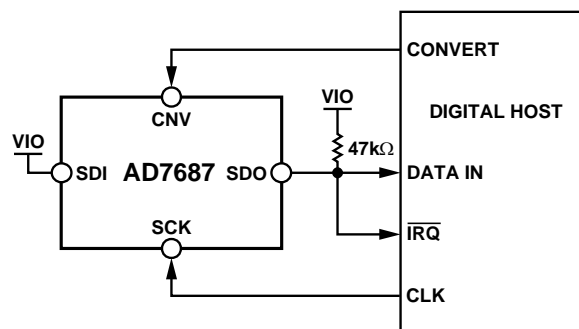
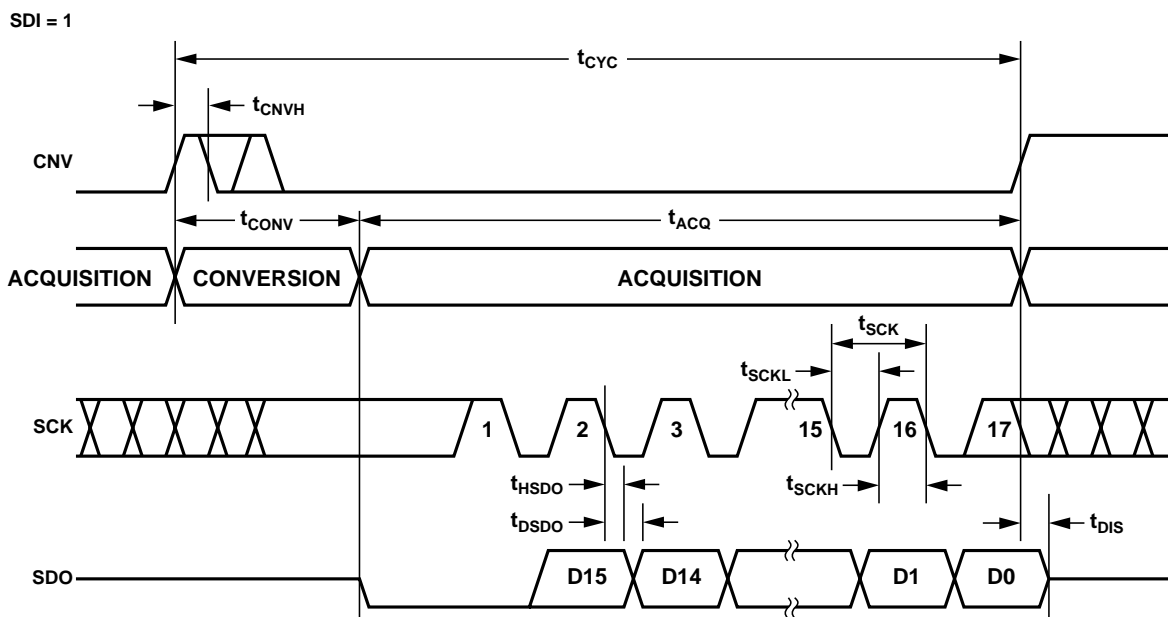
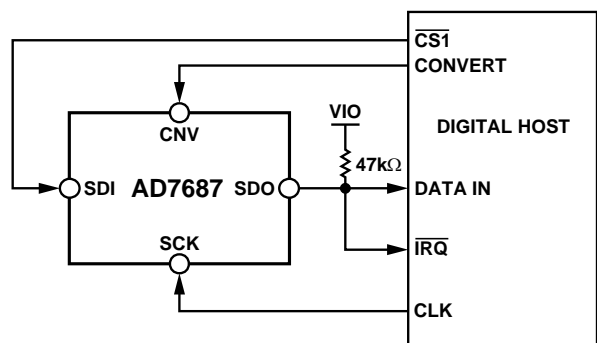
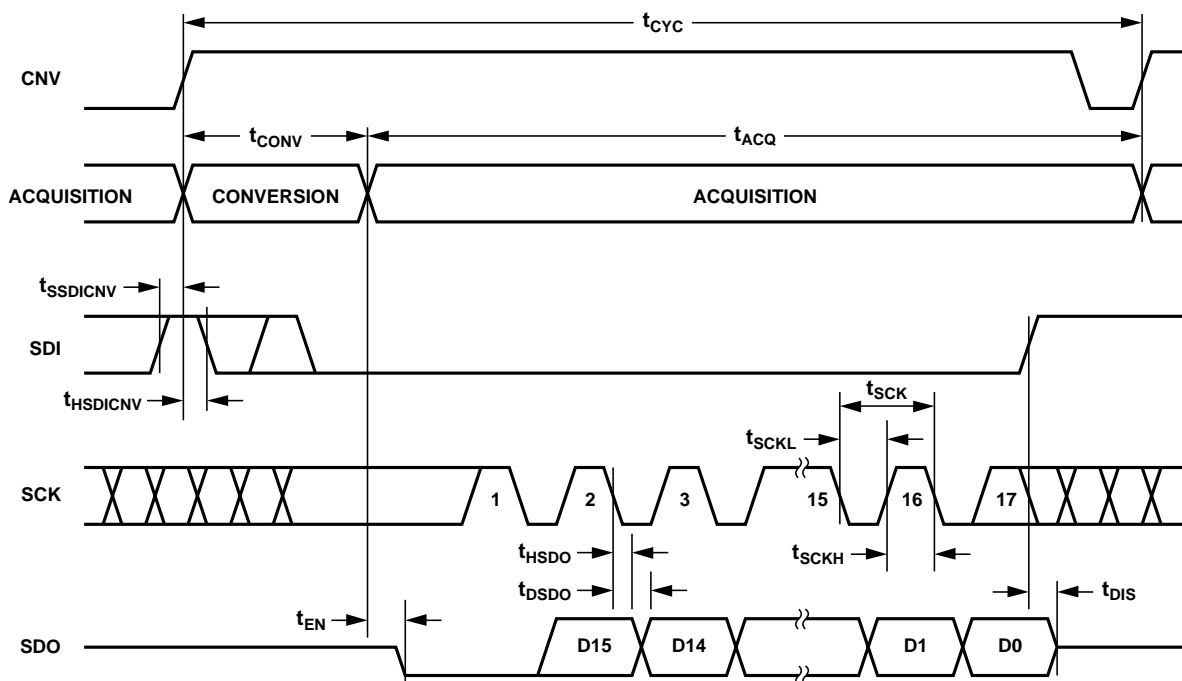

Figure 37.  $\overline{\text{CS}}$  Mode 3-Wire with BUSY Indicator Connection Diagram (SDI High)
Figure 38.  $\overline{\text{CS}}$  Mode 3-Wire with BUSY Indicator Serial Interface Timing (SDI High)
Figure 41.  $\overline{\text{CS}}$  Mode 4-Wire with BUSY Indicator Connection Diagram
Figure 42.  $\overline{\text{CS}}$  Mode 4-Wire with BUSY Indicator Serial Interface Timing
- In the  $\overline{CS}$  mode, if CNV or SDI is low when the ADC conversion ends (Figure 38 and Figure 42).
The connection diagram is shown in Figure 37 and the corresponding timing is given in Figure 38.
The connection diagram is shown in Figure 41 and the corresponding timing is given in Figure 42.